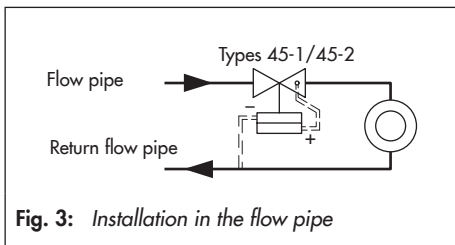

Fig. 3: Installation in the flow pipe
The medium flows through the regulator in the direction indicated by the arrow. The pressure in the valve outlet (high pressure) is transferred to the high-pressure chamber of the actuator over the attached control line (11) and the low pressure from the return flow pipe is transferred to the low-pressure chamber of the actuator over a control line (12) to be installed on site. See Fig. 3.